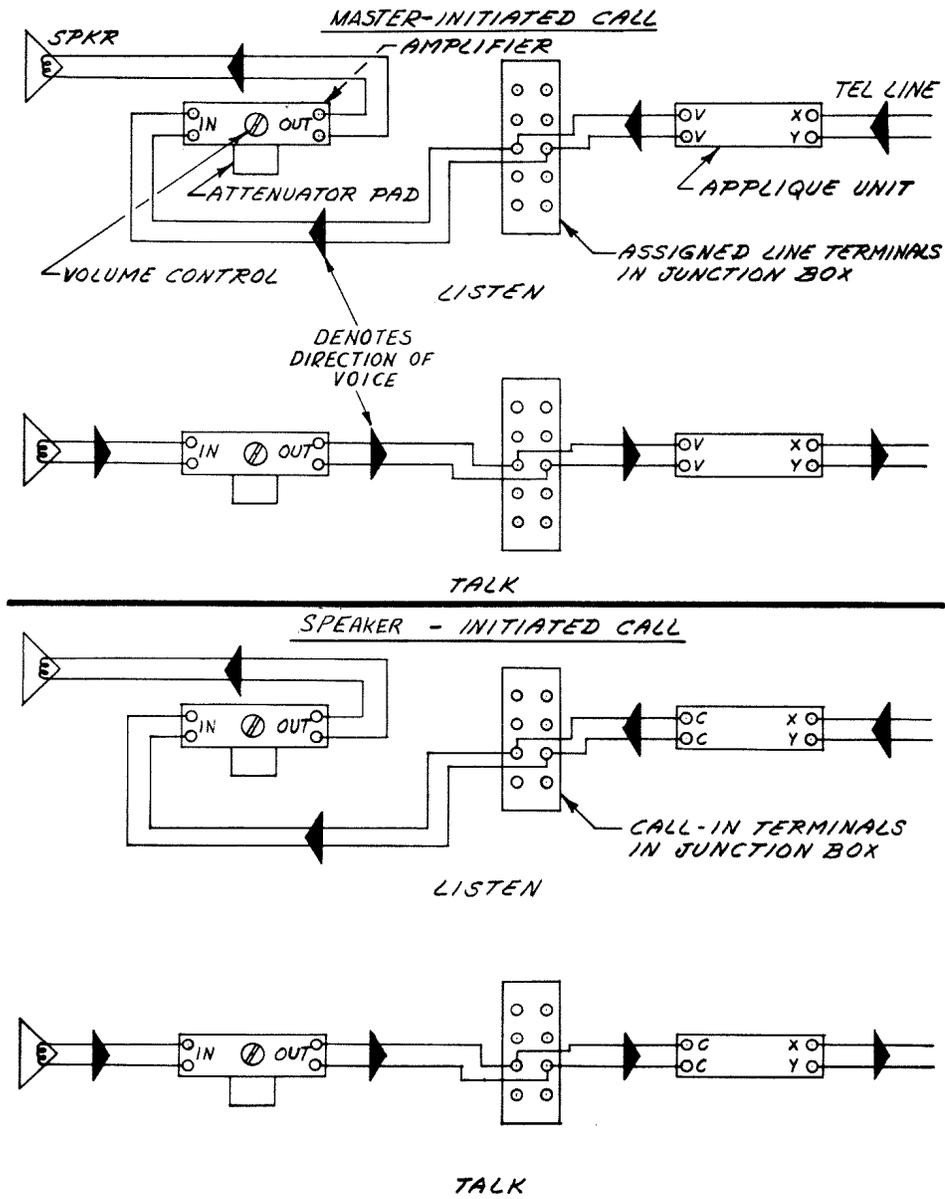

Fig. 9 - Zero-Level Operation
3.04 For zero-level communication between speaker or master stations "M"-circuit operation is used. Only one pair is necessary. This pair is connected to an applique unit, which in turn is connected to the assigned terminals of the master station. Both master and speaker stations can receive calls, and call-in. (The voice circuits are described in Figure 9, and the call-in circuits are discussed in Paragraphs 3.10 and 3.11.)